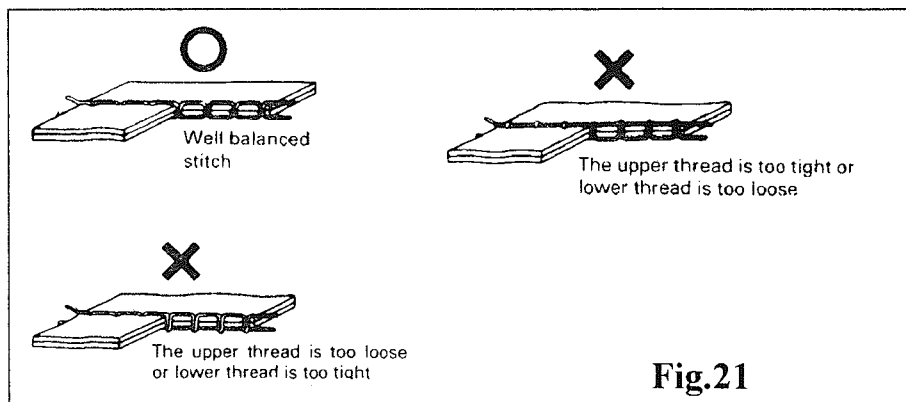

Fig.21
21、 Adjusting the thread tension (Fig.21):